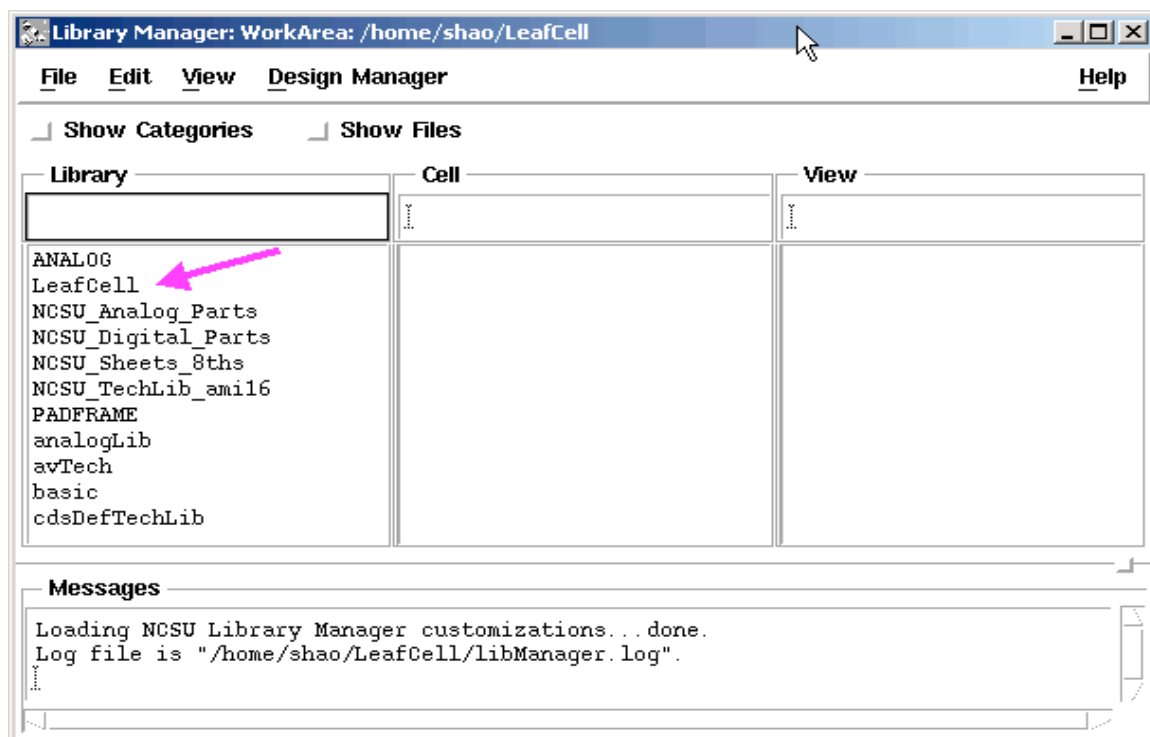

Figure 16: Updated library manager showing LeafCell project directory.
4. Your library manager should now show your new project directory as in Figure 16.